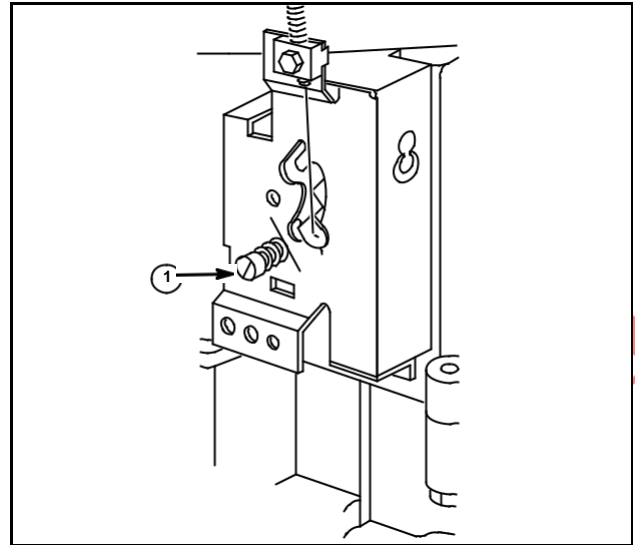

Fig. 65
Following steps 1 through 4 above, turn screw (1) until it contacts remote control lever. See Fig. 65.